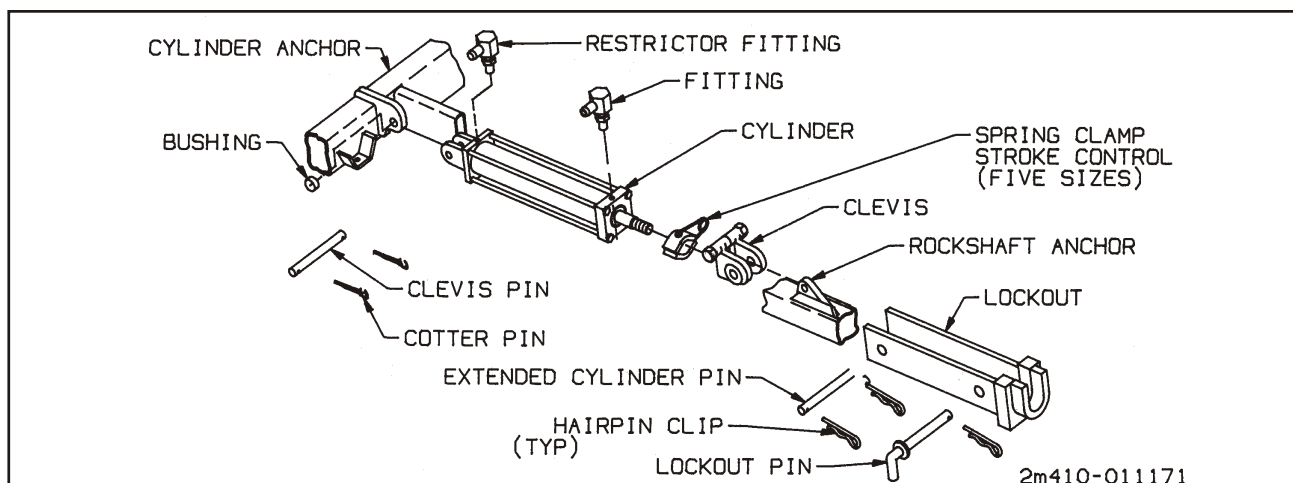

Figure 3-5 2227 Gauge Wheel Cylinder Installation
- 3-4.8** Install the base end of the gauge wheel cylinders on the frame cylinder anchors. Face the rod end down, towards the gauge wheel, and face the ports upwards (**See Figure 3-5**). Secure each cylinder to the cylinder anchor with the clevis pins and cotter pins supplied with the cylinder.
- 3-4.10** Insert the extended cylinder pin through the lockout assembly, the cylinder clevis and the gauge wheel arm bracket (**See Figure 3-5**). Secure with hairpin clips.